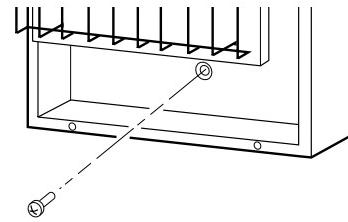

Figure 12 - Installing Bottom Mounting Screw
1. Locate bottom mounting hole. This hole is near bottom on back panel of heater (see Figure 12).
6. Insert bottom anchor screw through back panel into bottom anchor or drilled hole (see Figure 12).